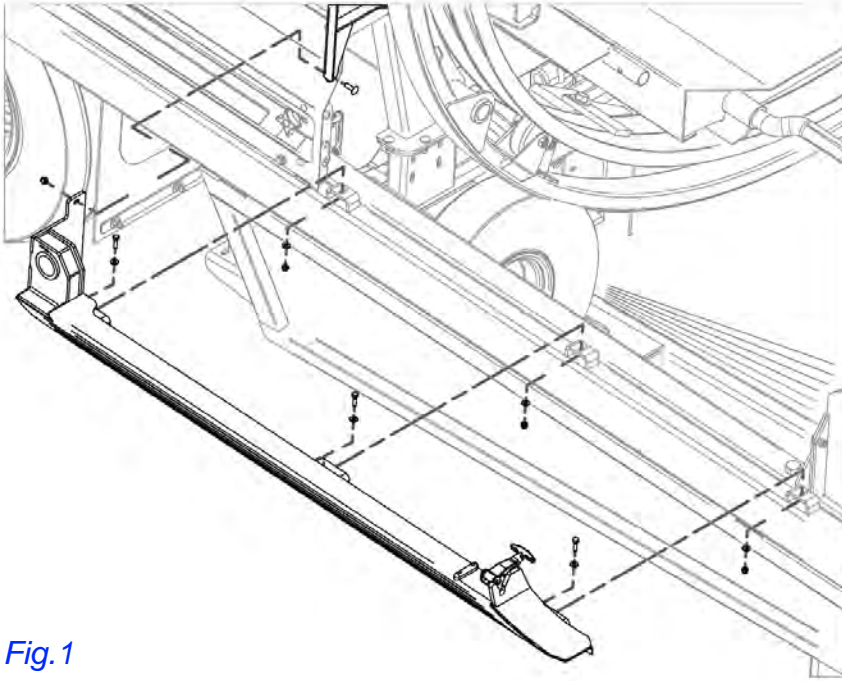

Fig. 1
3. Install bottom safety guard mounts using bolts, washers and nuts. Left side shown in Fig. 1, right side is the same.